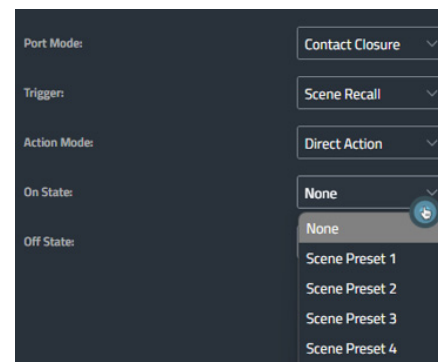

Figure 60: Contact Closure – ON/OFF State
- This defines the action to be taken during On State. In some functions the action is fixed, see **Figure 60**.